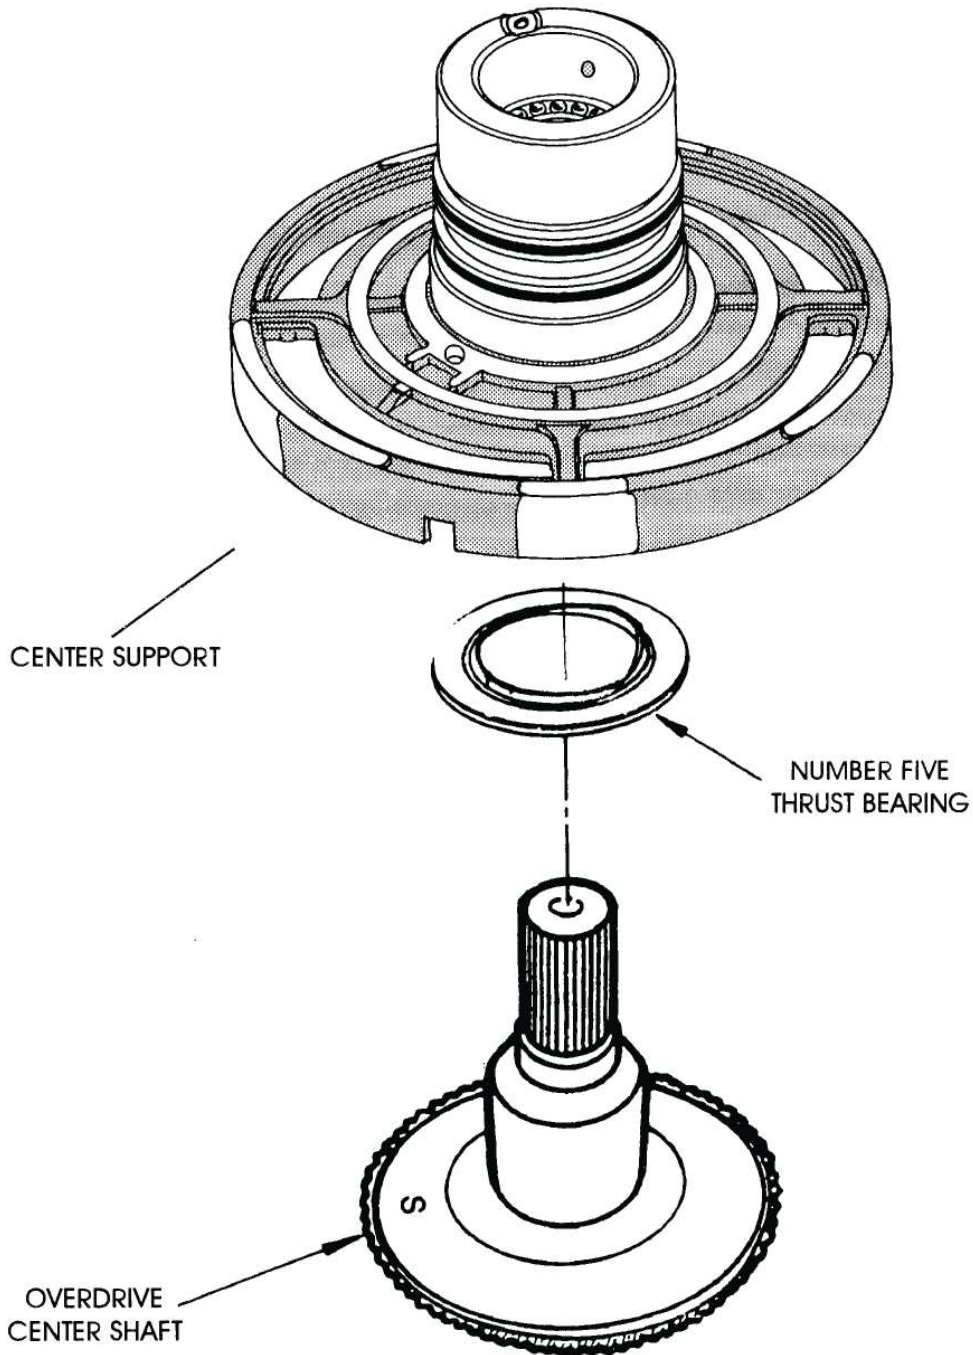

Figure 47
- (4) NO. 5 NEEDLE BEARING - Make certain the No. 5 Needle Bearing included in the service kit is installed with the service kit **regardless** of whether your unit had one or did not have one. Some 1994 model year transmissions were built with some or all of the parts that "Resemble" the parts in this service kit, and may or may not have a No. 5 needle bearing. Make certain that the No. 5 needle bearing from the service kit is installed. Refer to Figure 47 for proper installation of the needle bearing.